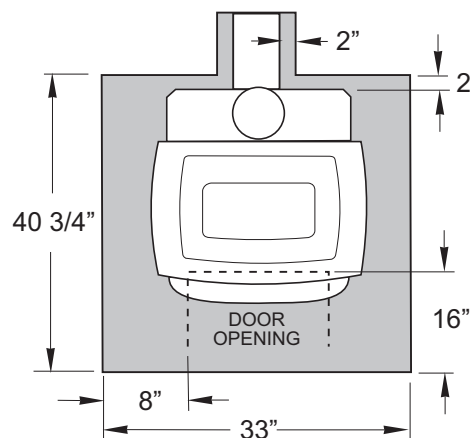

Figure 9. Floor Protection minimum dimensions, U.S.
**In the U.S.** floor protection must extend forward from the door opening at least 16 in. and 8 in. from the sides of the door opening. Protection must also extend 2 in. under the chimney connector. This will result in a minimum floor protector 33" wide x 40 3/4" deep. See fig 9.